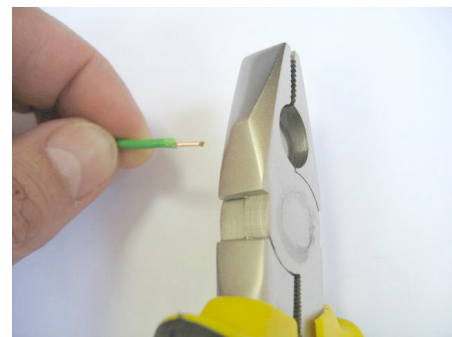

Figure 1.15 -
- Strip back 6 mm (0.25 inches) of insulation from the wire end (Figure 1.15).